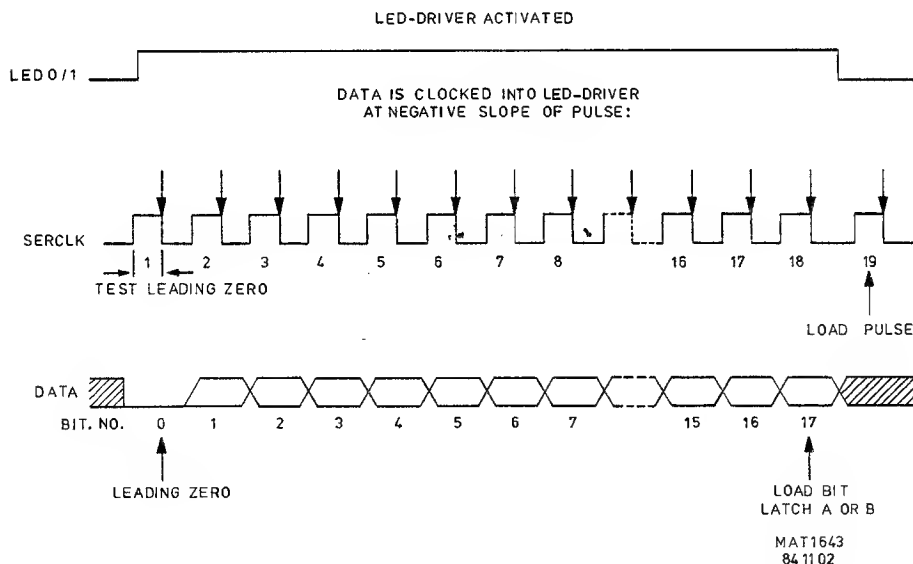

Fig.5.1. Time relation of input signals of LED-drivers
- input pin 8 is the data input. The clock input receives a row of pulses as shown in Fig. 5.1. In parallel with the clock pulses, a row of data-bits is applied to the data input. The first bit is a logic low start signal; the following 16 bits are loaded into one of the two registers, depending on the 18th data bit (low for the first register, high for the second).